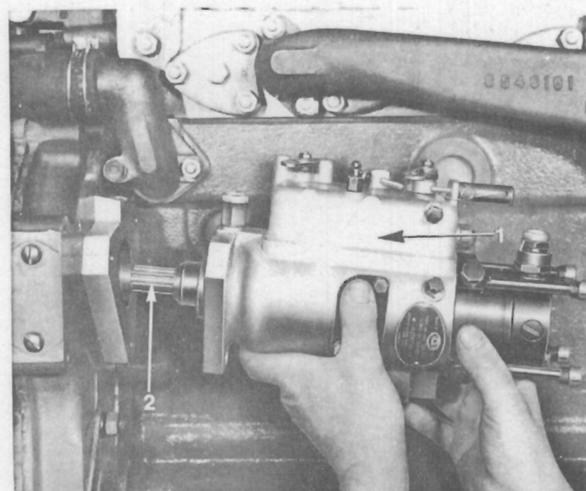

Fig. J.9.
4. Release the high pressure and low pressure fuel pipes and remove the fuel injection pump and quill shaft. Fig. J.9. On D4.203 engines it will be necessary to remove the fuel pump gear before the fuel pump can be removed from the rear of the timing case.